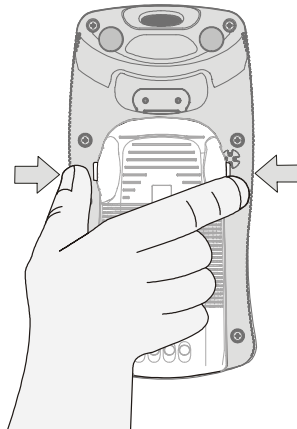

Figure 4. Battery Removal
2. Press the Release Buttons on the battery sides (see Figure 4) and remove the battery away from the Powerpad.